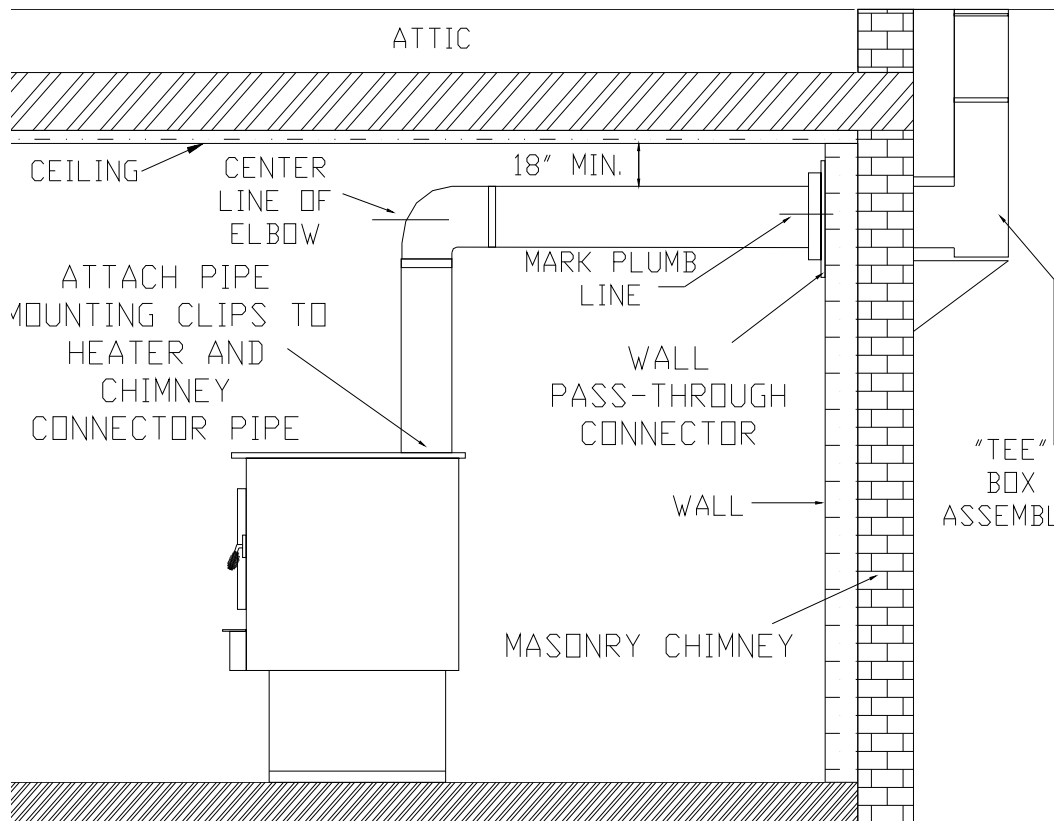

Figure 7
1. Before connecting these units to a masonry chimney, determine that the masonry fireplace wall pass-through connector thimble meets the NFPA-211 Code and local building codes and is a minimum of 18" from the ceiling. If the connector thimble does not meet these codes, the pass-through connector must be modified. (See Figure 7.)